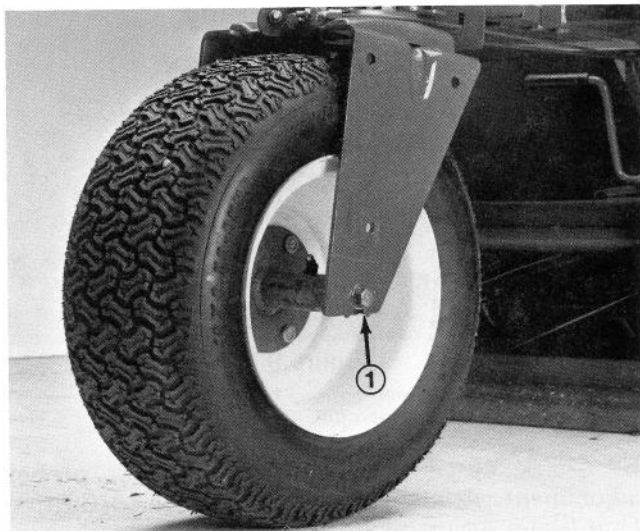

Figure 2
3. Install rear wheel into caster fork and secure with flatwashers, lockwashers and capscrews on both sides of fork (Fig. 2).